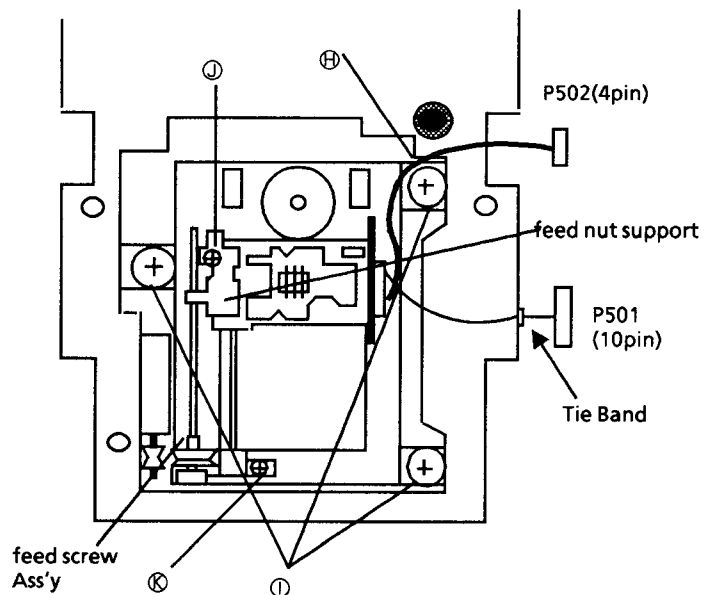

Fig.2
- 3) Remove the 2 screws (B) fastening the changer assembly.
- 5) Slide the changer assembly to arrow direction (I).
Wire (H) should be set as Fig.2.
4. Removing the turntable base (Fig.2)
- 3) Remove the 3 screws (J).
5. Exchanging the pickup (Fig.2)